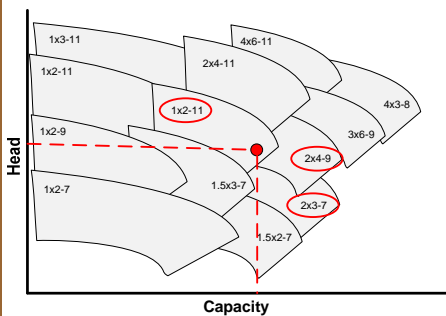
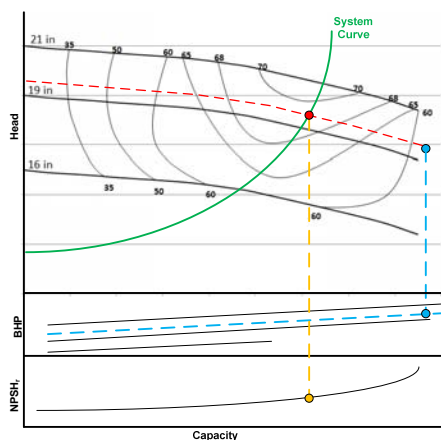

Figure 1: Pump Summary Diagram
Figure 2: Pump Curves
Some manufacturers produce charts showing multiple pumps on one chart (See Figure 1). Manufacturers can also provide pump curves for each pump (See Figure 2). These summary charts are useful for narrowing the selection.
Figure 2 is a typical pump curve. Superimposed on the pump curves in Figure 2 is an example of a system curve.
The operating point of the pump is the intersection of the pump curve and the systems curve for the design flowrate. Note that in Figure 2, the intersection occurs at an impeller diameter of 19.5 inches. Assuming that this impeller size is selected, then the BHP required and NPSH required can be read from the curve.
- If possible, choose the horsepower that will give you enough power to run the pump at the end of its curve as shown in Figure 2.
- NPSH required (NPSH_r) is the suction head required at the impeller centerline over and above the vapor pressure of the liquid. The pump curve should provide the NPSH_r for the selected impeller diameter. See the orange line in Figure 2.